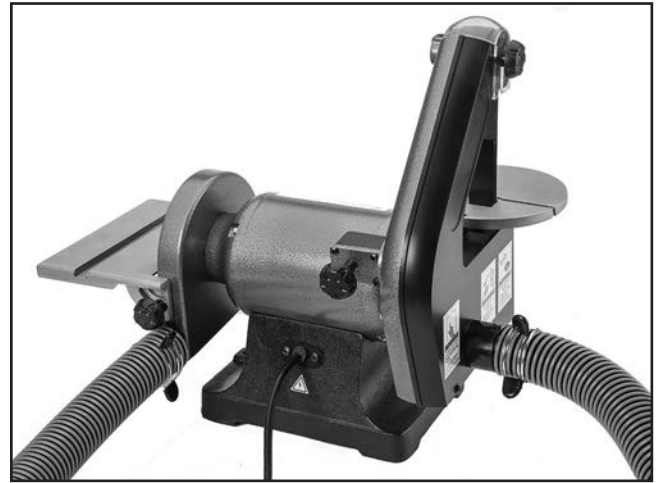

Figure 10. Dust hoses attached to dust ports.
1. Fit 1½" dust hose over each dust port, as shown in **Figure 10**, and secure in place with 1½" hose clamps.